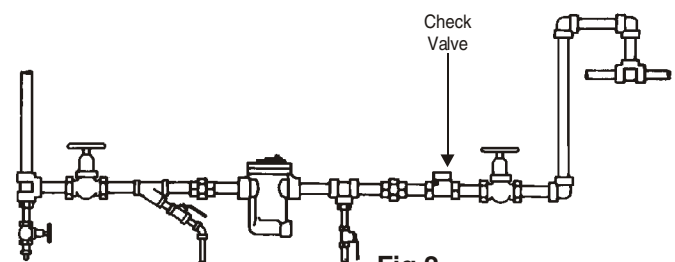

Fig.2
6. A check valve should be installed on return piping if there will be a pressurized return line or the trap drains to an overhead return line (Fig.2).